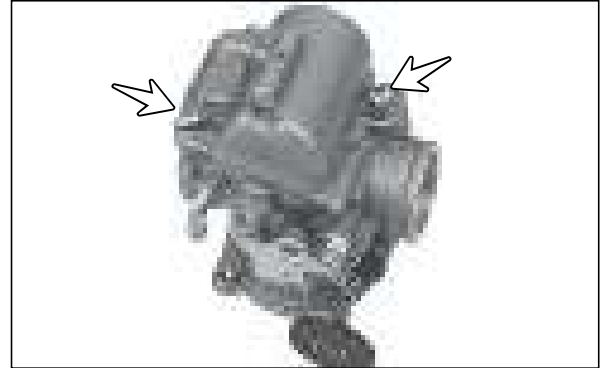

Fig. 4.22
- Remove the CRR pan head screws (2 Nos.) from the float chamber mounting and take out the float chamber along with the gasket. (Fig. 4.22)